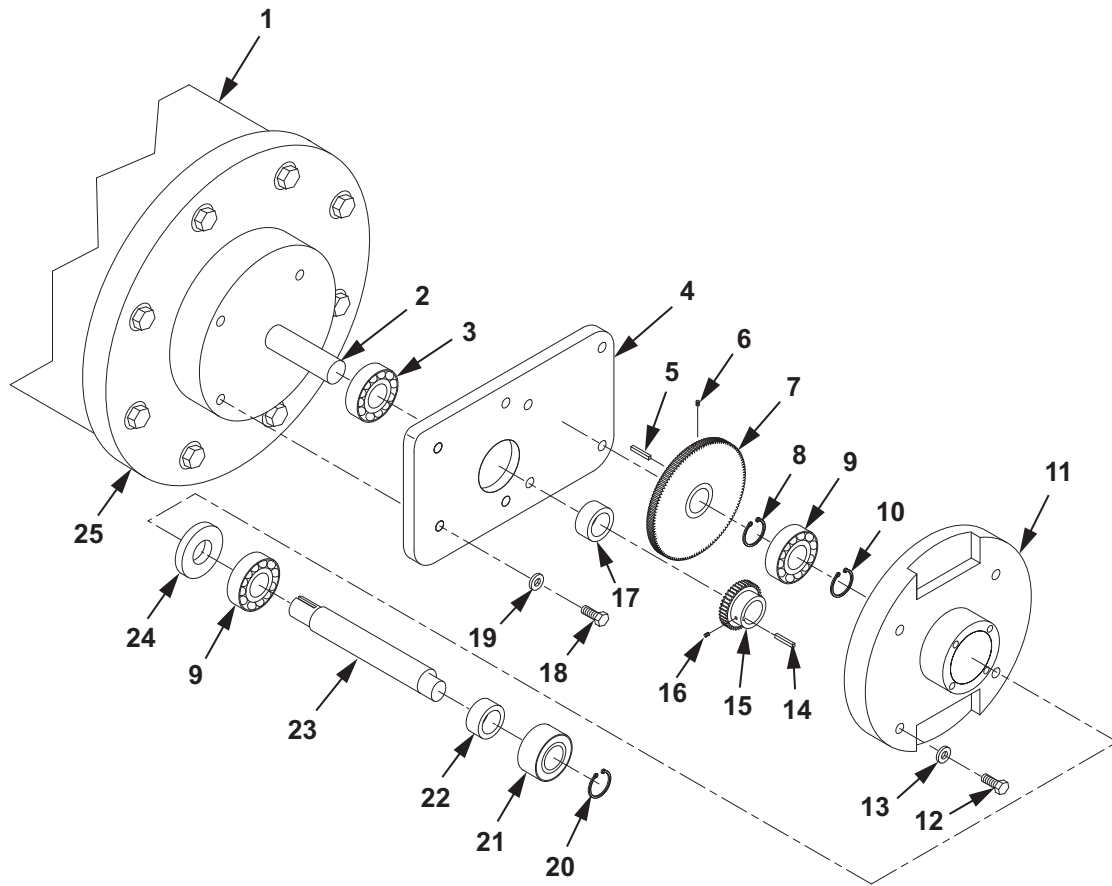

Figure 1. Fuel Additive Injection Pump Bearing Housing Disassembly.
1. Position drain pan below fuel additive injection pump fluid motor housing (Figure 1, Item 1).
2. Using retaining ring pliers, remove snap ring (Figure 1, Item 20) from output shaft (Figure 1, Item 23).
3. Remove drive bearing (Figure 1, Item 21) and spacer (Figure 1, Item 22) from output shaft (Figure 1, Item 23).
4. Remove four screws (Figure 1, Item 12) and lockwashers (Figure 1, Item 13) from gear housing (Figure 1, Item 11).
5. Discard four lockwashers (Figure 1, Item 13).
6. Remove gear housing (Figure 1, Item 11) from adapter plate (Figure 1, Item 4).
7. Loosen setscrew (Figure 1, Item 6) and remove gear (Figure 1, Item 7) from gear housing (Figure 1, Item 11).
8. Remove key (Figure 1, Item 5) from output shaft (Figure 1, Item 23).
9. Using retaining ring pliers, remove snap ring (Figure 1, Item 8) from output shaft (Figure 1, Item 23).
10. Using arbor press, remove output shaft (Figure 1, Item 23) and two bearings (Figure 1, Item 9) from gear housing (Figure 1, Item 11).
11. Using retaining ring pliers, remove snap ring (Figure 1, Item 10) from output shaft (Figure 1, Item 23).
12. Remove seal (Figure 1, Item 24) from gear housing (Figure 1, Item 11).
13. Loosen setscrew (Figure 1, Item 16) and remove gear (Figure 1, Item 15) from shaft (Figure 1, Item 2).
14. Remove key (Figure 1, Item 14) and spacer (Figure 1, Item 17) from shaft (Figure 1, Item 2).
15. Remove four screws (Figure 1, Item 18) and lockwashers (Figure 1, Item 19) from adapter plate (Figure 1, Item 4).
16. Discard four lockwashers (Figure 1, Item 19).
17. Remove adapter plate (Figure 1, Item 4) from end plate (Figure 1, Item 25).
18. Remove bearing (Figure 1, Item 3) from adapter plate (Figure 1, Item 4).